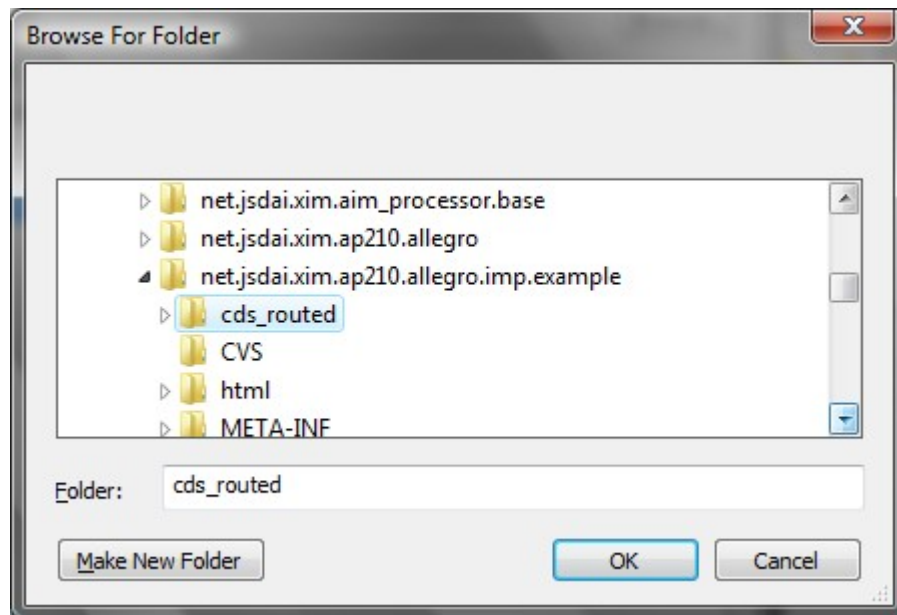

Figure 1. *cds_routed* folder with Allegro ASCII text files
- Click **Browse** button to locate the folder. Browse to the IDA-STEP installation folder, enter into *.../plugins/net.jsdai.xim.ap210.allegro.imp.example* folder, select *cds_routed* folder (see Figure 1).